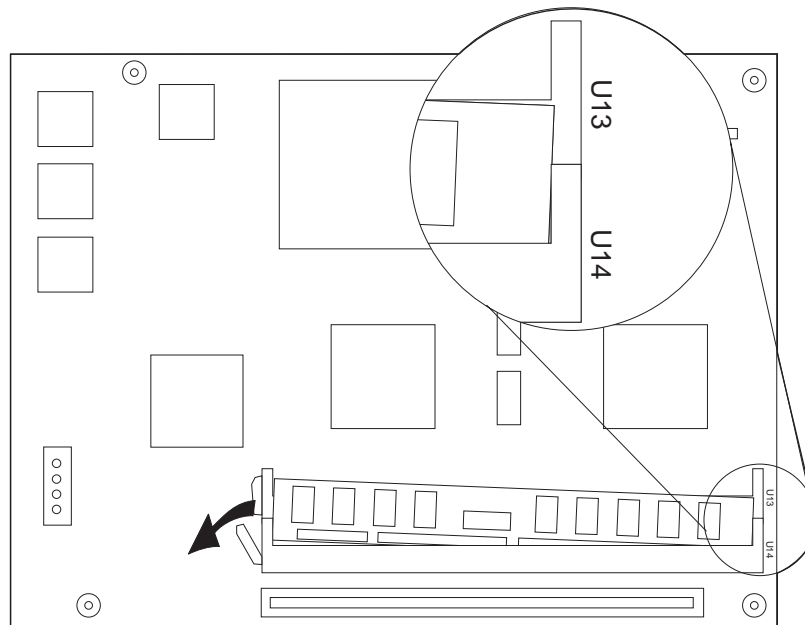
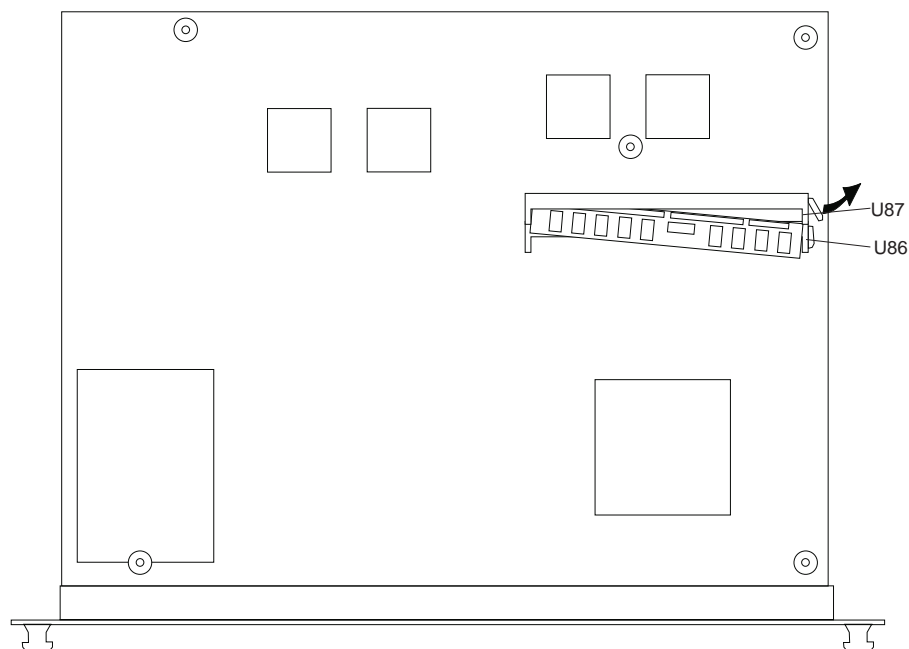

Figure 4-1. Previous System Card
Figure 4-2. New System Card
- 1** Identify the faulty memory module. Two types of system card are available (see Figure 4-1 and Figure 4-2 on page 4-11). DIMM socket A is positioned in position U14 or U87 according to the system card type.